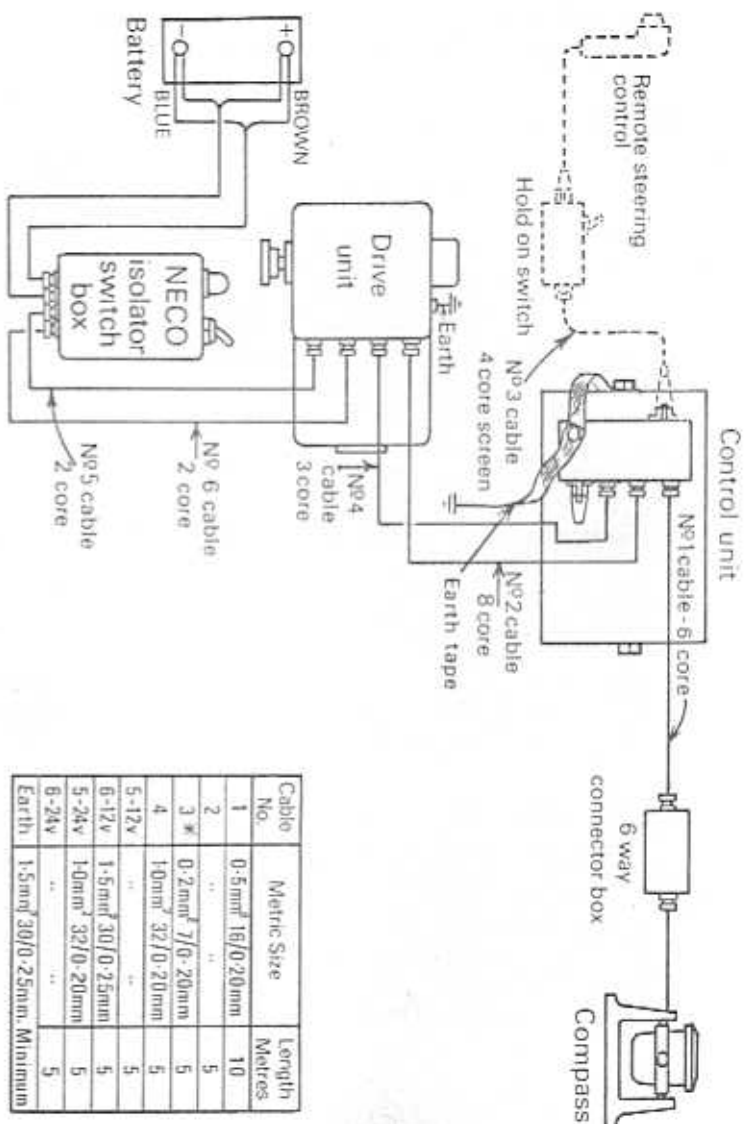
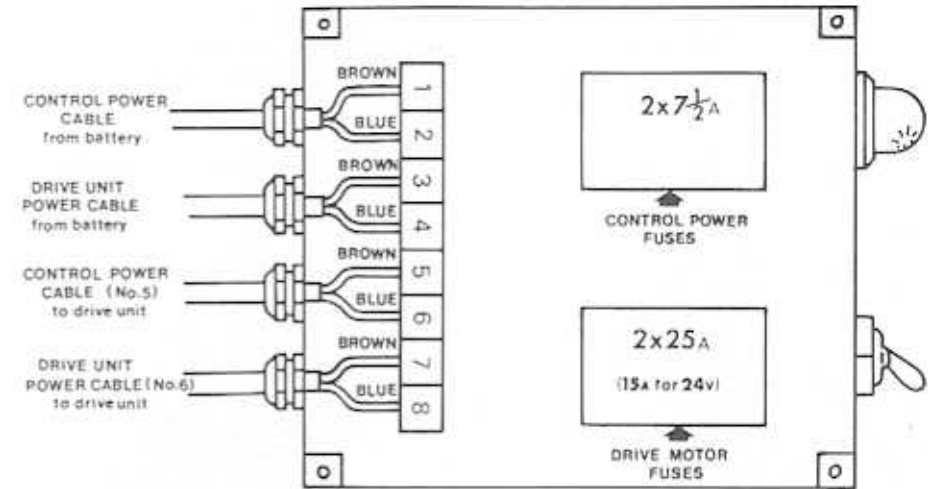

FIG 4
FIG.10 ISOLATOR SWITCH BOX
CAUTION. To avoid rotation of the cables and possible strain it is recommended that all cable glands be tightened **BEFORE** connecting up the lead-outs. Referring to the Cable Interconnections diagram Figure 4.
3.7 **POWER SUPPLIES.** The Drive Unit is supplied with two pairs of power leads factory fitted, as shown in Figure 4. No. 5 cable – The Control Power Cable and No. 6 – The Drive Unit Power Cable. Nos. 5 and 6 cable must not be connected to independent batteries, unless either the negative or positive terminals of the two batteries are common. It is recommended that both these cables should be capable of being isolated, each with its own Isolator Switch (10 amp) An Isolator Switch Box can be supplied as an optional extra and is wired up in accordance with Figure 10.
3.8 **No. 5 CABLE, CONTROL POWER CABLE** (2-core 1mm² 32/0.20mm) must invariably be routed direct to the battery terminals and never via a cable which is supplying power to the drive unit or other circuits, as shown in Figure 4. Failure to do this will result in poor pilot performance, as the pulse of current taken by the pilot motor by switching (together with the resistance, and possibly more important, the inductance of the cable) can produce a voltage drop of several volts for a few milli-seconds over only a short length of cable, and will cause relay flutter. The Control Unit Illumination is not controlled by the Off/On switch; this can be switched off by turning the brilliance control hard anti clockwise.